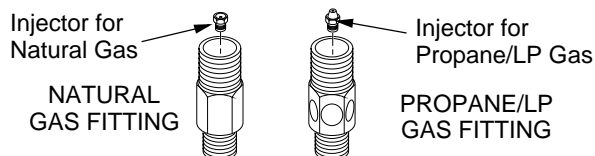

Figure 13 - Burner Inlet Fittings with Injectors
1. Remove the burner inlet fitting from the burner pan assembly. DO NOT remove the orifice from this fitting. The propane/LP burner inlet fitting is included in the hardware kit (see Figure 13).